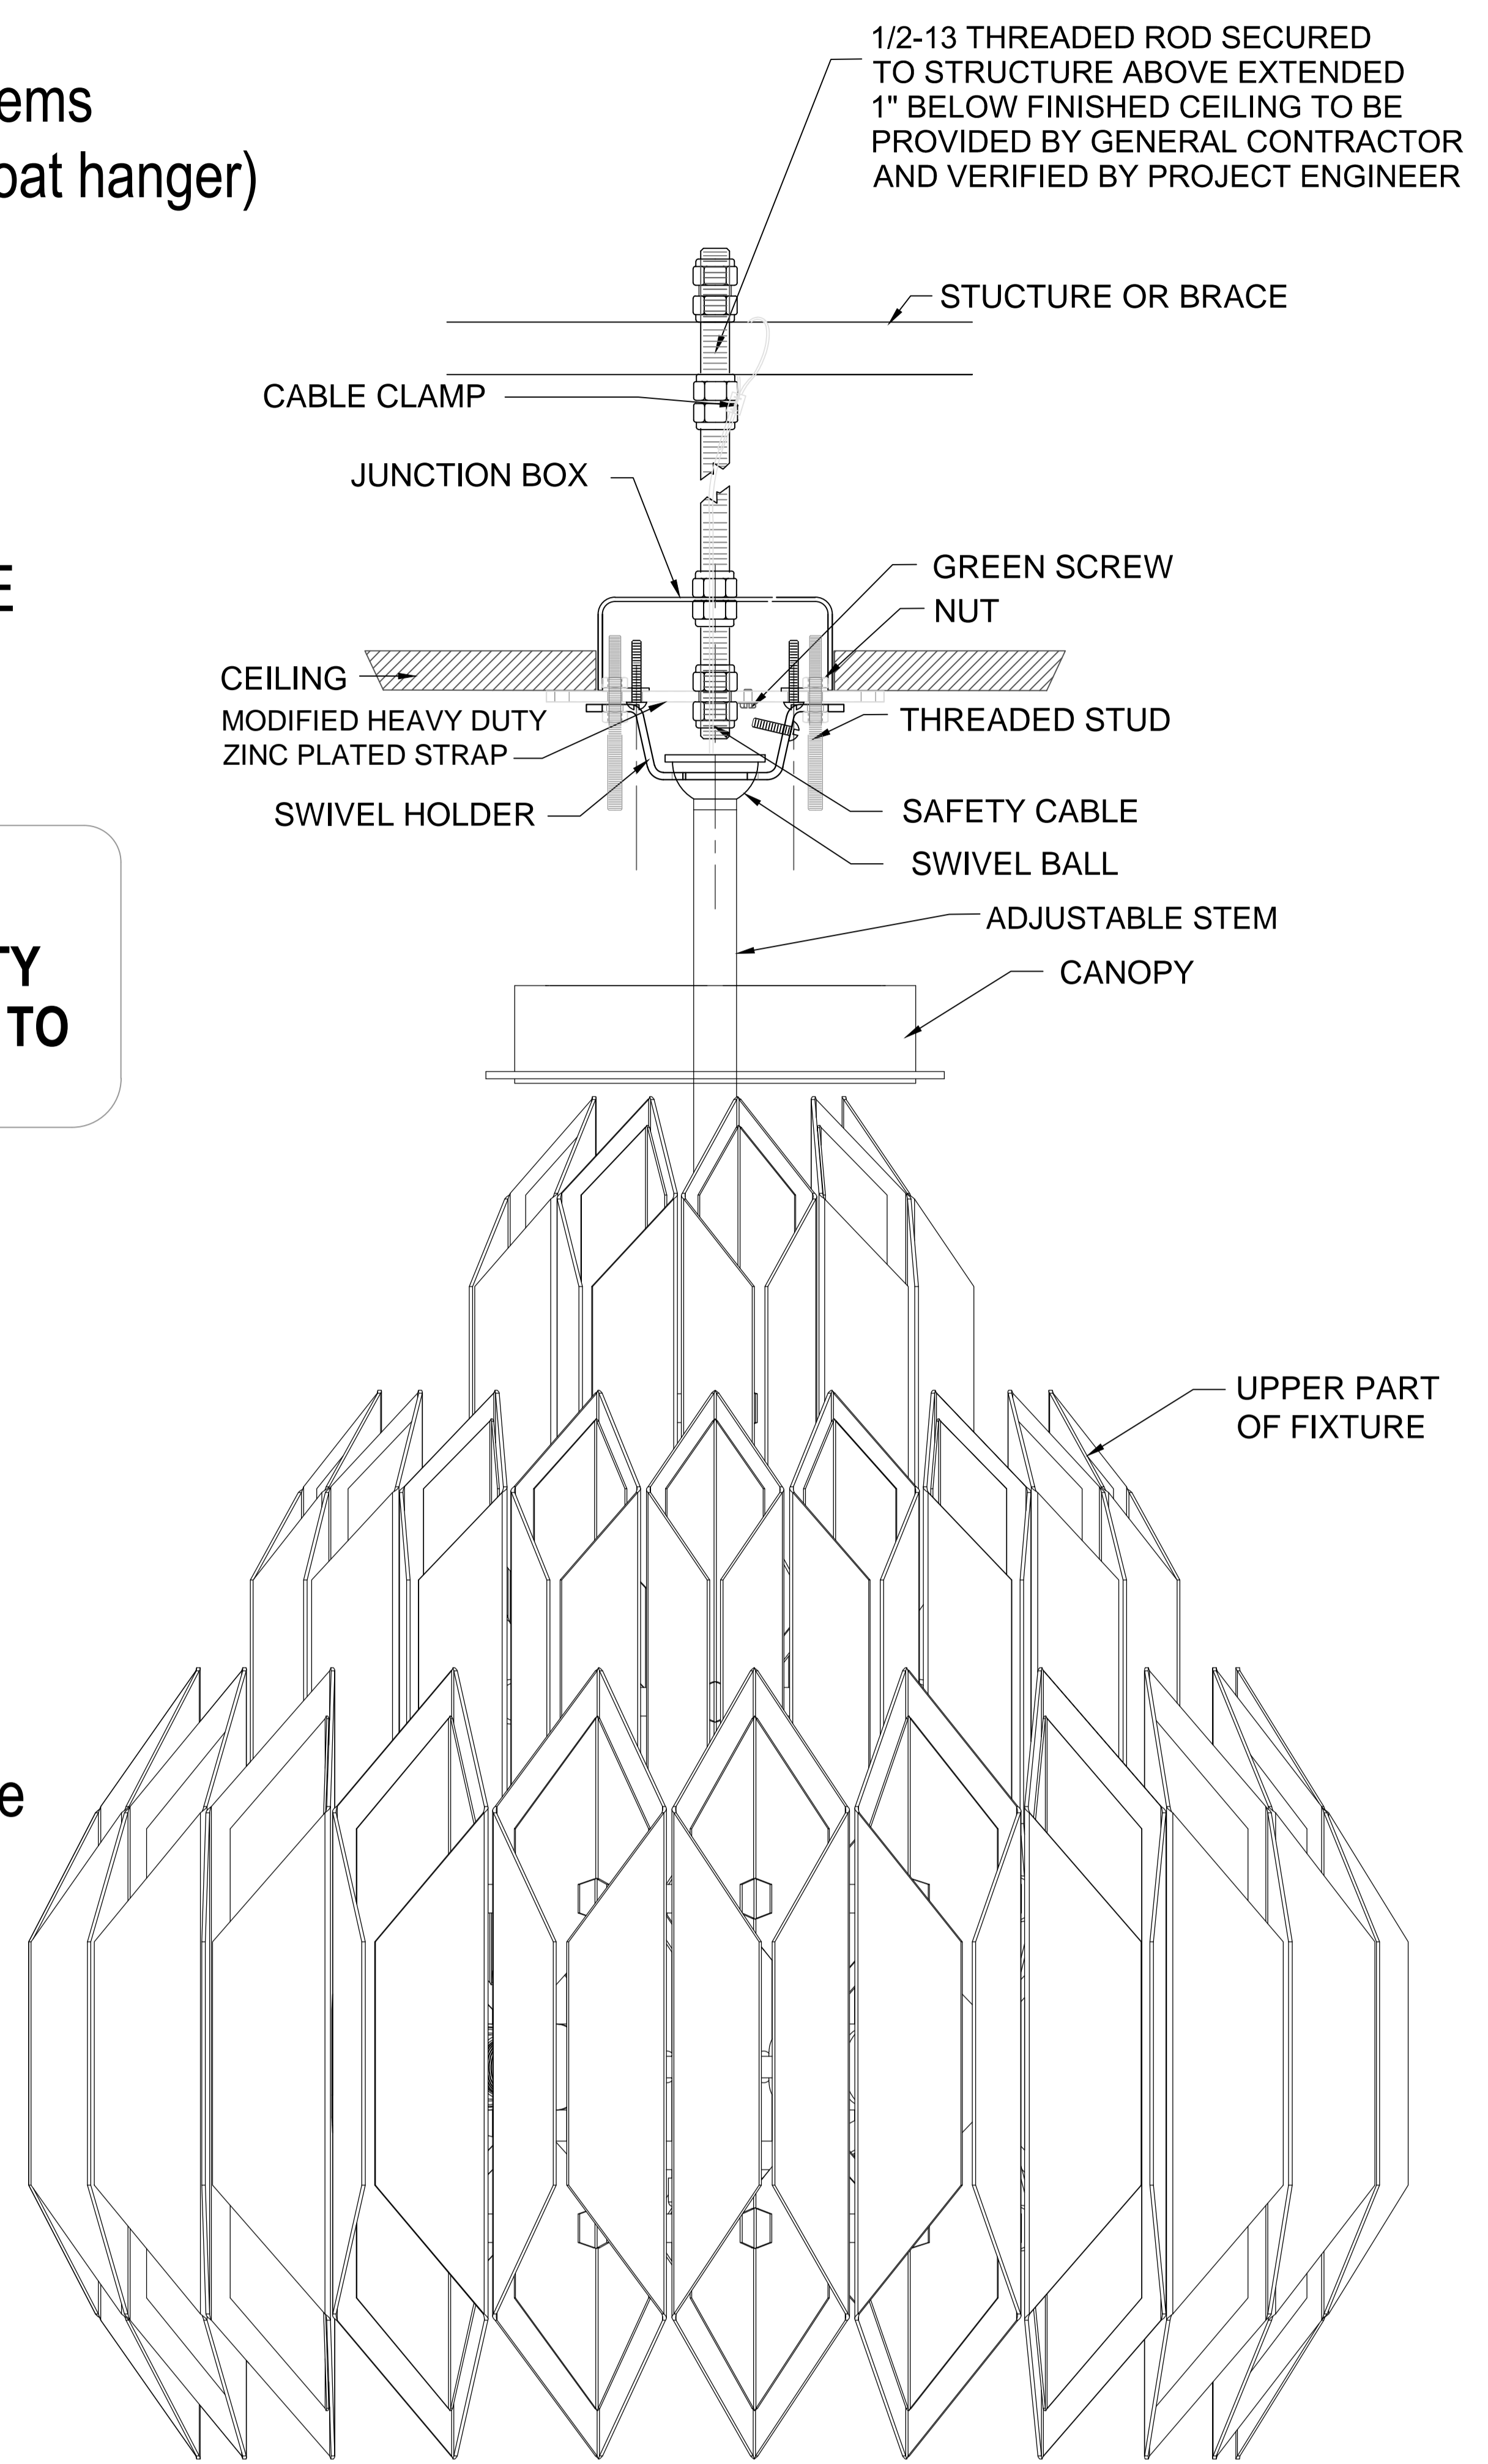

FIGURE-02
3. Hang the fixture to the swivel holder. Make sure to fit the groove of the swivel ball to the tongue of the swivel holder. Then attach the SAFETY CABLE to the building or structure or brace. (See figure-02)